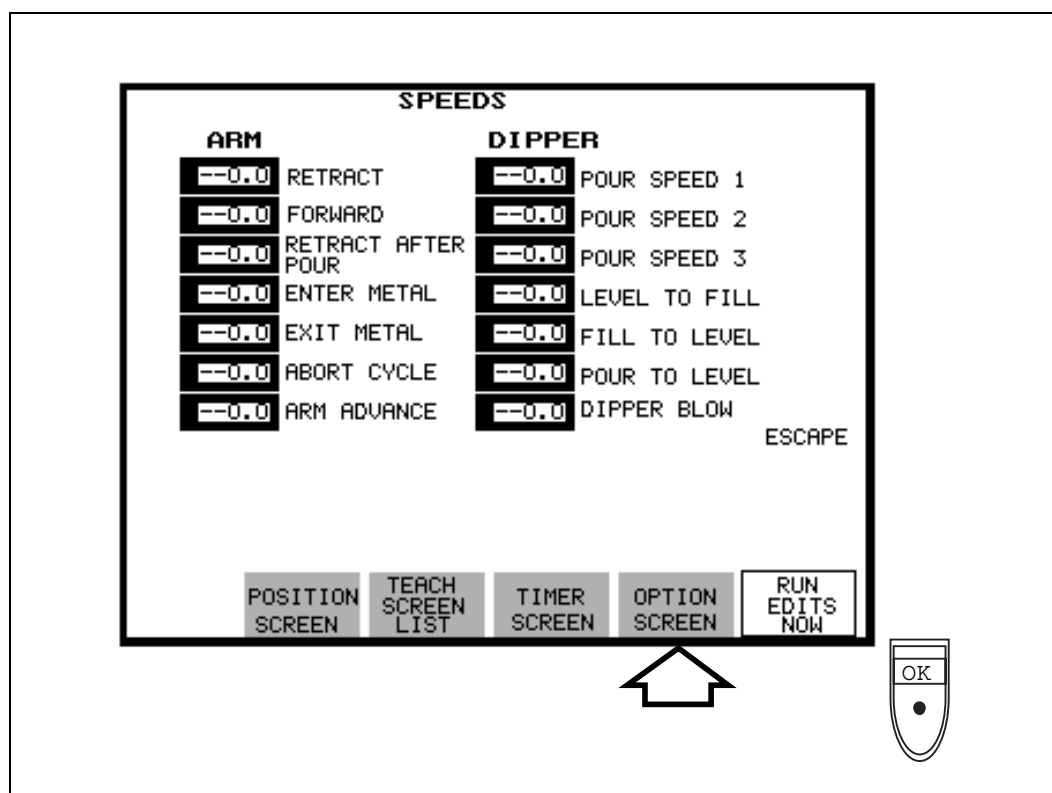
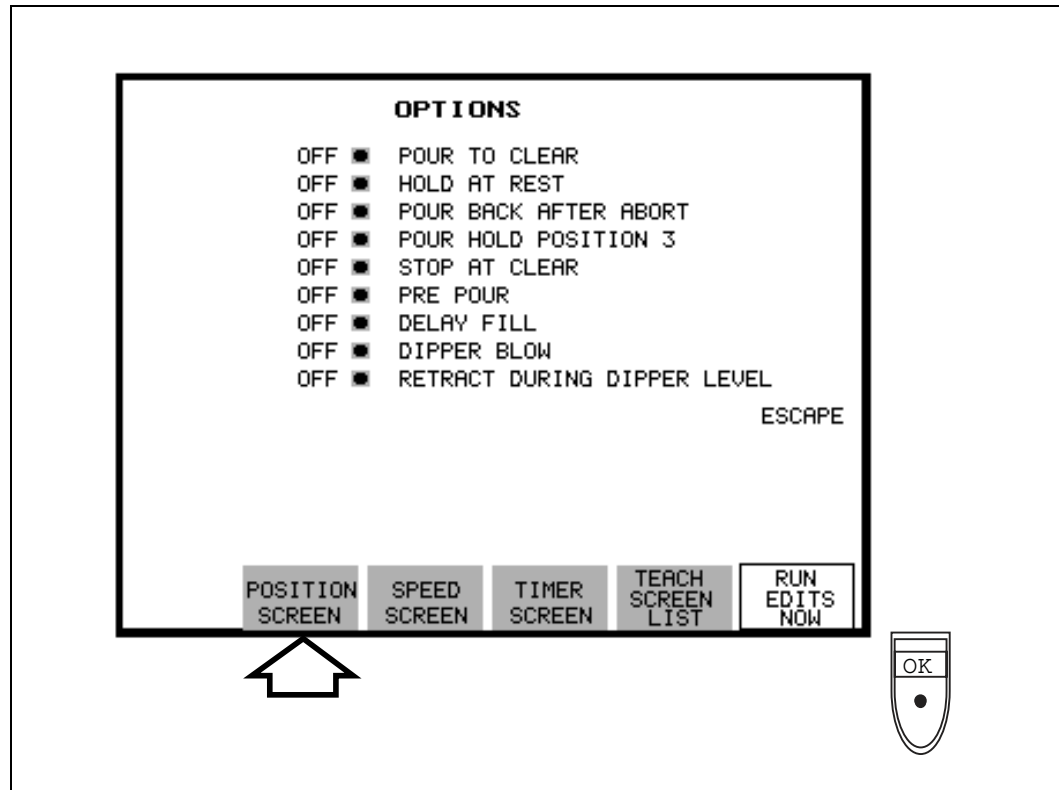
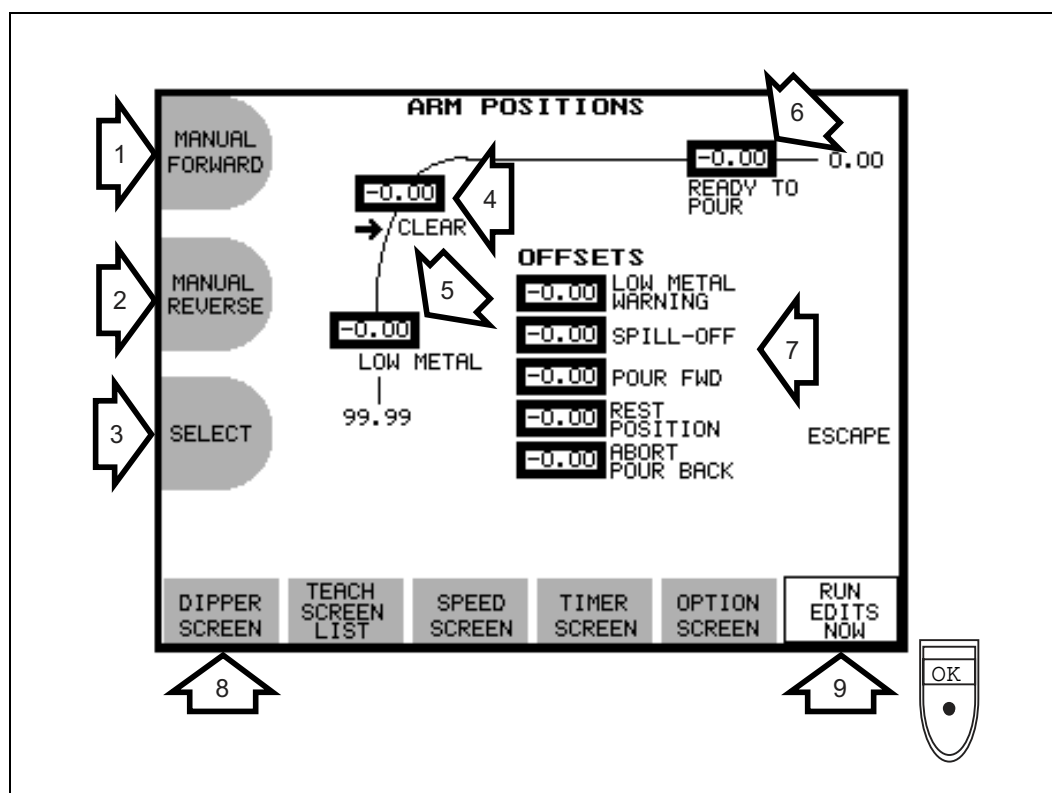

Figure 7-13: Speeds Screen
Figure 7-14: Options Screen
Figure 7-15: Arm Positions Screen
4. Press the **GO TO SPEEDS SCREEN** key (#4). The Speeds Screen displays (Figure 7-13).
7. From the Speeds Screen, press the **OPTION SCREEN** key (Figure 7-13). The Options Screen displays (Figure 7-14).
9. From the Options Screen, press the **POSITION SCREEN** key (Figure 7-14). The Arm Positions Screen displays (Figure 7-15).
10. To use Teach by Example to set the arm positions, press the **SELECT** key (#3 on Figure 7-15). An arrow will appear beside one of the teachable fields. Each time the **SELECT** key is pressed, the arrow will move to a new field. Move the arrow to the Clear field (#4) and then use the **MANUAL FORWARD** (#1) and **MANUAL REVERSE** (#2) keys to move the arm to the desired Clear position. Press the **OK** key.